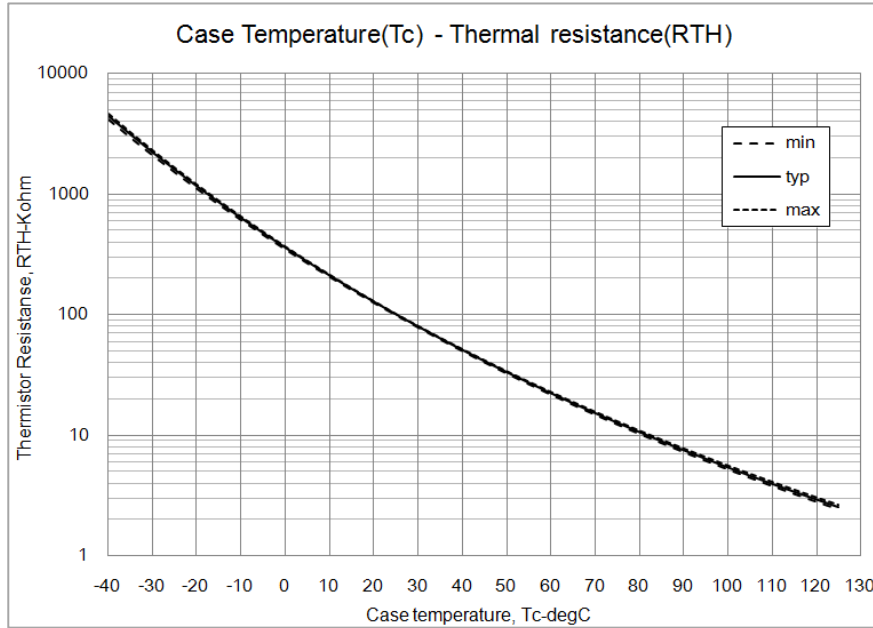
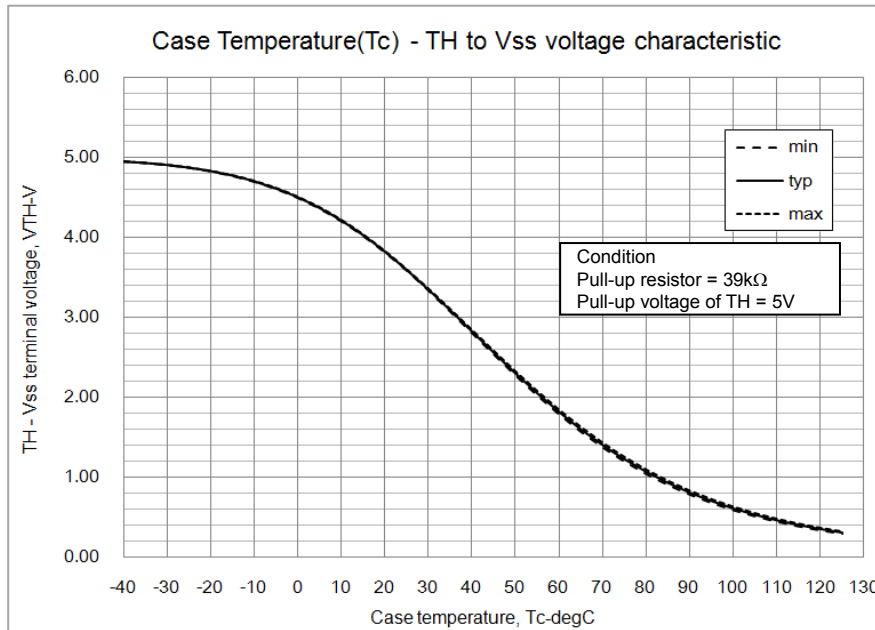

Fig. 10
Fig. 11
5. Inside the IPM, a thermistor used as the temperature monitor for internal substrate is connected between VSS terminal and TH terminal, therefore, an external pull up resistor connected between the TH terminal and an external power supply should be used. The temperature monitor example application is as follows, please refer the Fig.10, and Fig.11 below.